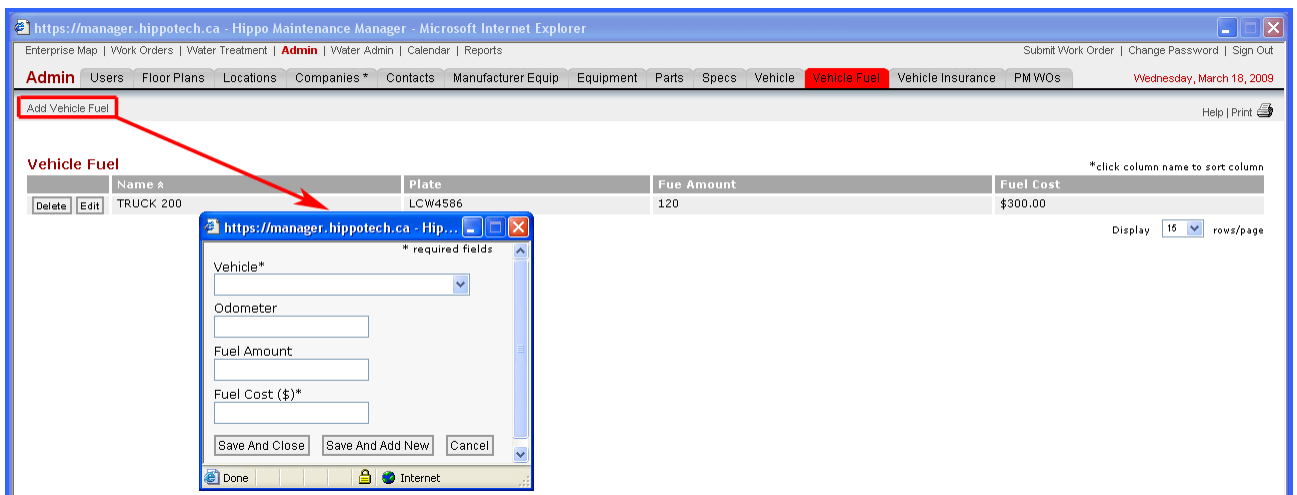

Figure 50: Add Vehicle Fuel
2. Click **Add Vehicle Fuel** sub-menu item to display the Add Vehicle Fuel window (See Figure 50).